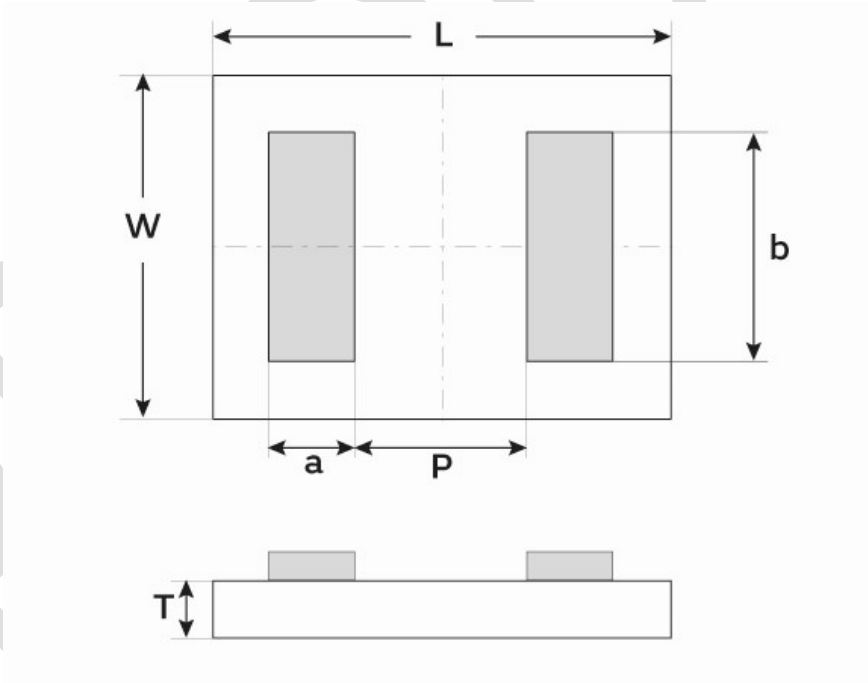

Figure 8 - Package outline drawing
(1) Other film frame carrier are possible on request
(2) With N = ENIG : 0.1µm Au / 5µm Ni & with S = SAC305 type6 re-bumping
(3) missing capacitors can reach 0.5%
(4) refer to Figure 8